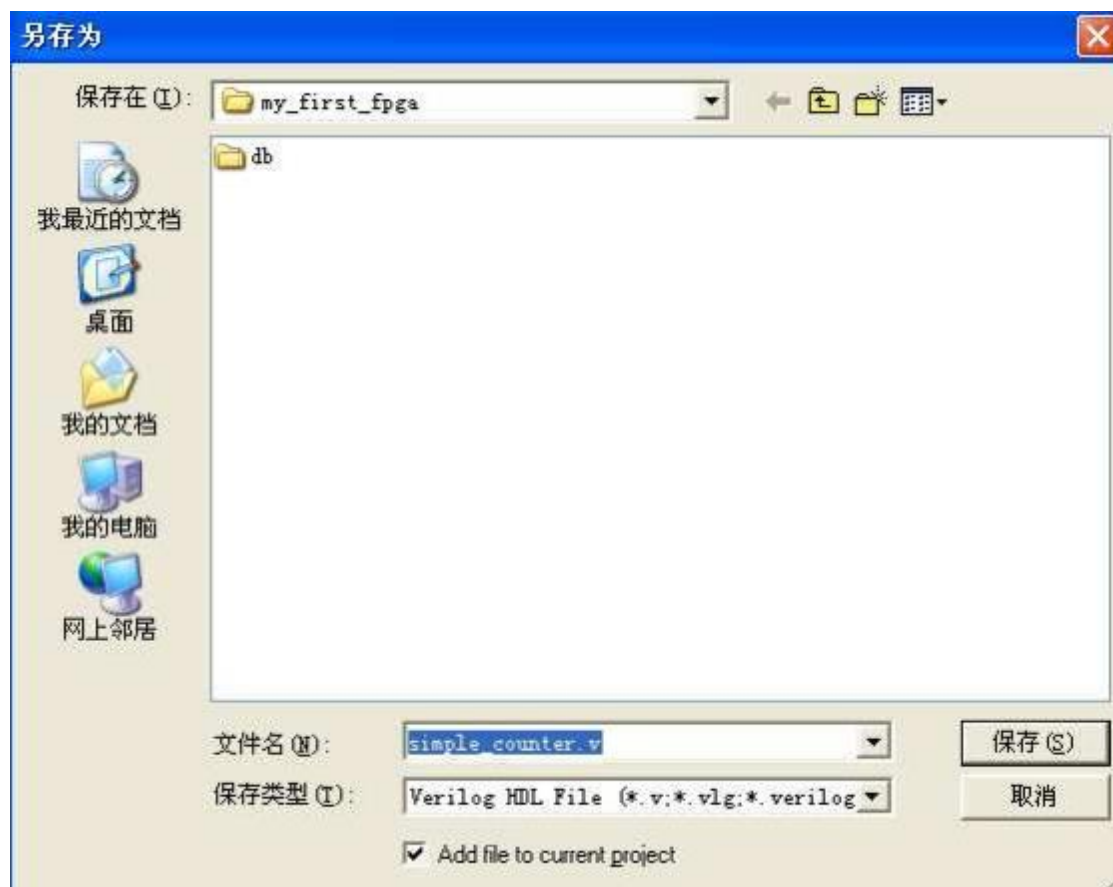

Figure 3-3 Saving the Verilog HDL file
7. Select File > Save As and enter the following information (see **Figure 3-3**).